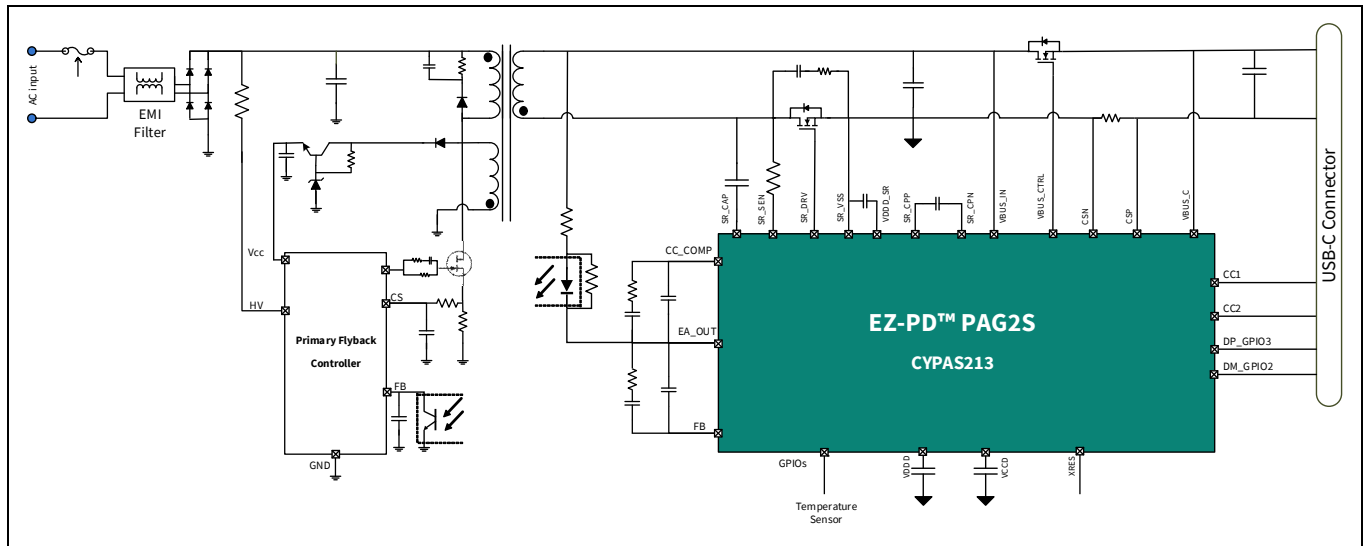

Figure 1 USB PD adapter with primary side flyback control
Figure 1 shows a power adapter application diagram implementing a primary side-controlled synchronous flyback system. In this system, EZ-PD™ PAG2S-PS engages the internal error amplifier (EA) to take the feedback from the secondary side and pass it on to the primary controller over an isolation barrier like an optoisolator. The primary side controller can be any standard flyback controller. In this topology, EZ-PD™ PAG2S-PS integrates three key features: secondary side rectification, charging protocol control, and fault protection.
EZ-PD™ PAG2S-PS integrates two error amplifier blocks that handle secondary output sensing and feedback for both constant voltage and constant current modes of operation. The error amplifier output can be used to regulate the current drawn through the external optocoupler. The negative input of the error amplifier is the feedback (FB) pin and the positive input is an internal voltage reference. Based on the desired VBUS output, the voltage at the FB pin will be varied using internal current source/sink IDACs. An external compensation network is required between the FB pin and EA_OUT pin, as shown in the application diagram (see Figure 1). The constant current operation makes use of an internal low-side current sense amplifier (LSCSA), the output of which feeds into an independent error amplifier as shown in the functional block diagram. Constant current mode regulation requires an external compensation network between CC_COMP_GPIOx and EA_OUT as shown in Figure 1. EZ-PD™ PAG2S-PS error amplifier can ensure constant voltage regulation from 3.3 V to 28 V range and constant current regulation from 1 A to 5 A as required by the USB PD PPS EPR specification.